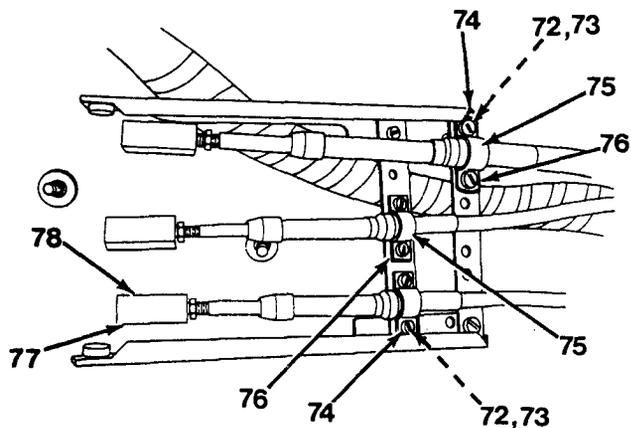

Figure 17-9
26. Position cable terminal as recorded during disassembly and install three pins (78) and cotter pins (77, Figure 17-9).
27. Install three shims (76), clamps (75), six cap screws (74), lockwashers (73) and nuts (72).